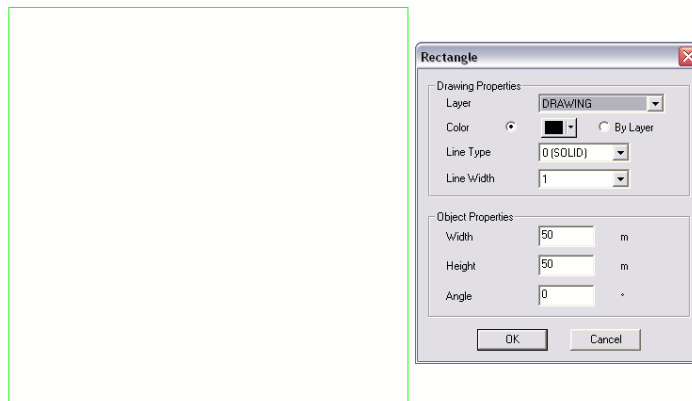

Figure 4-6
4. In the previous tutorial we did not draw in any background information. This is not usual, since in most cases you need to have the area, fence lines etc laid out before you can draw in the hydraulic system. We will enter some basic background information in this design. Select *Draw/Rectangle/2 Point* and place the first point on the screen by left-clicking. Move the cursor and click again to place the opposite corner of the rectangle (the second point). Select *Modify/Change* and click on the boundary of the rectangle. In the dialog change the “Width” and “Height” to **11.5ft (3.5m)** as in Figure 4-6. Click [OK].